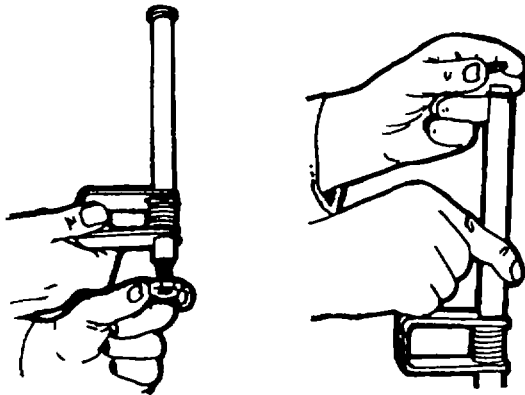

Figure 4-32. Fitting Seal Rings to Push Rod Tube
- o. Install the back-up washer with the domed side facing towards the spring. Install a new sealing ring with the flat side facing towards the end of the push rod tube (figure 4-32, left).
- p. At the opposite end of the tube, install a new sealing ring with the flat side facing towards the shoulder (figure 4-32, right).